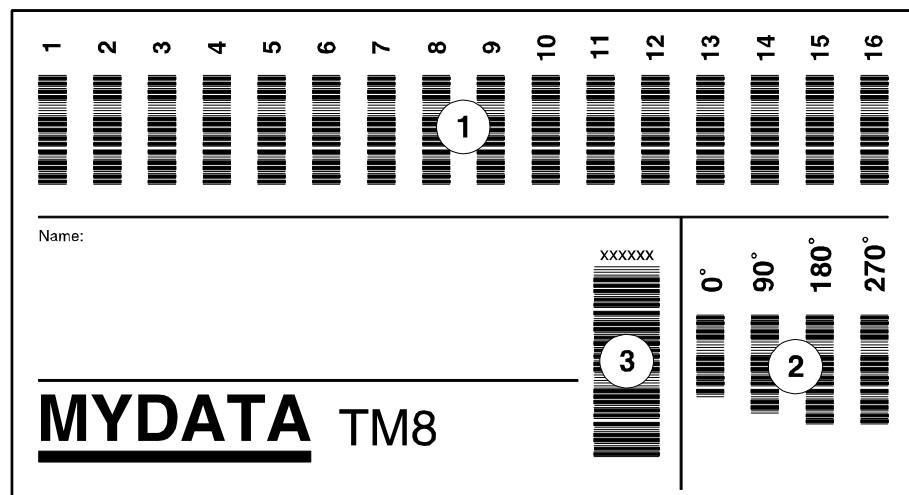

Figure 5-18. Magazine barcode label
Each magazine, except for Agilis, must be equipped with a magazine barcode label, attached to the magazine front, see Figure 5-18. This label is necessary for the barcode feature and it is unique for each magazine.
3. Using the barcode reader, scan the magazine barcode on the Magazine Barcode Label, section 3 in Figure 5-18 on page 5-52.